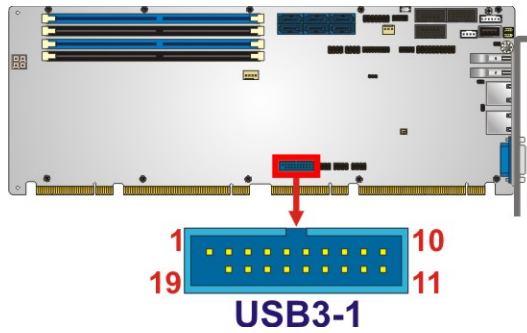

Figure 3-26: USB 3.1 Connector Location
- CN Location:** See **Figure 3-26**